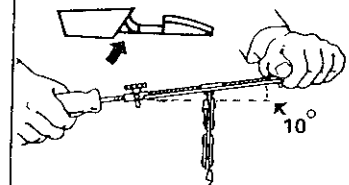

Figure 25
5. Position file holder at 10° angle (Figure 25) and align the 30° file holder marks with the bar as shown in Figure 26.